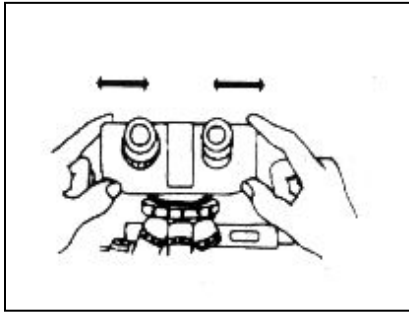

Fig. 4.4
- Adjust the distance between the eyepieces until both right and left images become one (Fig 4.4).